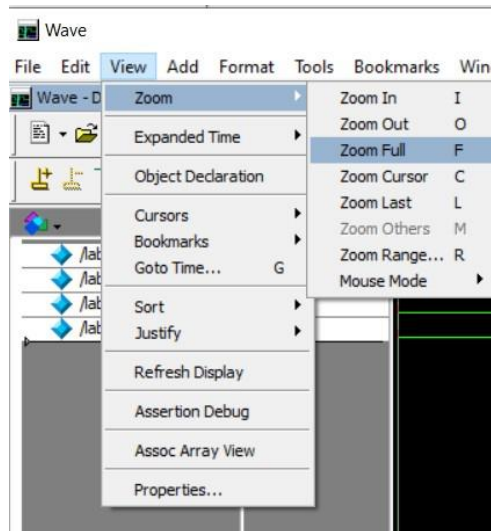
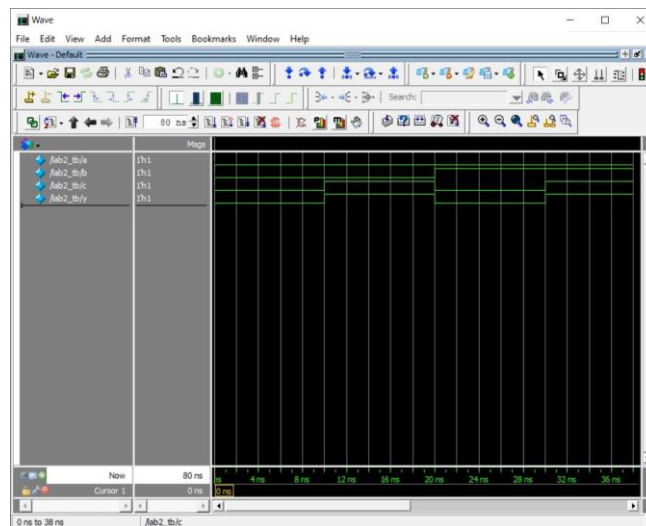

Fig. 2.13: Zoom to view entire waveform.
Fig. 2.14: Output wave-forms of the logic circuit.
12. Click on *Run*. The simulation waveform will appear on the screen. Go to the *View* tab, click *Zoom* and select *Zoom Full* (Fig. 2.13) (or you can press *F* key on your keyboard), to view the output of *y* for all the various inputs (Fig. 2.14).